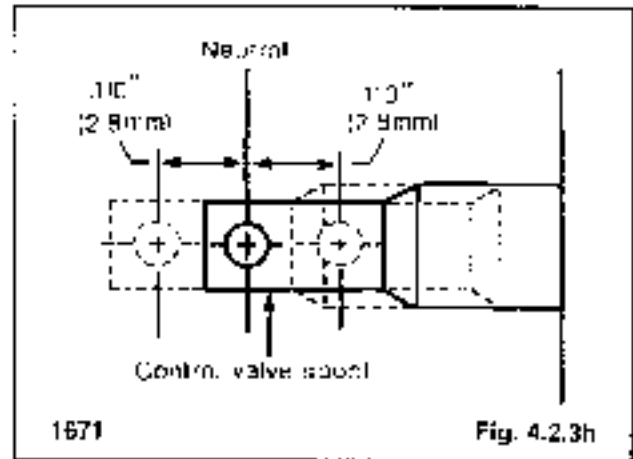

Fig. 4.2.3h
10. The control valve spool must move approximately .110" (.28 mm) either side of neutral position before hydraulic flow occurs (Fig. 4.2.3h).